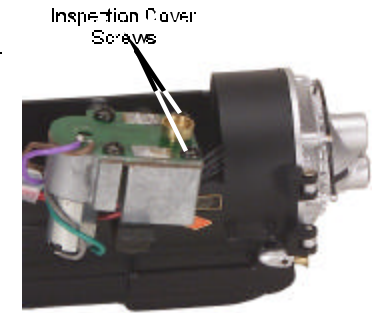
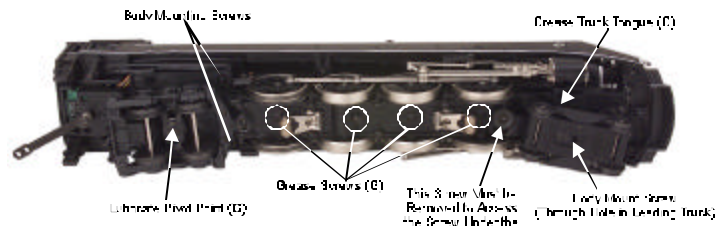
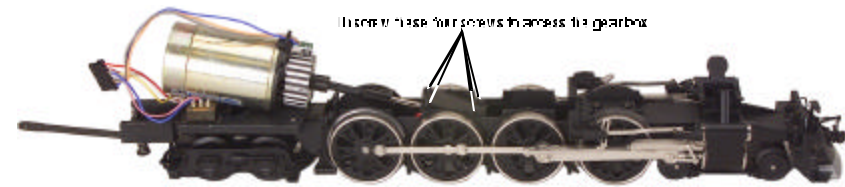

Figure 5. Inspecting the Smoke Unit
Figure 7a. Location of Body Mount Screws and Greasing Points on the Locomotive
Figure 7b. Screws to remove to access the gear box.
If you experience poor or no smoke output when the smoke unit is on and has fluid, check the wick to see if it has become hard, blackened, and unabsorbent around the heating element. Remove the boiler shell (by removing the body mounting screws shown in Fig. 7a on pg. 12), inspection cover screws, and inspection cover (Fig. 5). Inspect the wick; if it is darkly discolored and hard, it should be replaced.
2. Remove the boiler by removing the body mounting screws shown in Fig. 7a
3. Remove the Phillips screw (marked "GREASE") located at each set of wheels (Fig. 7a) and the gearbox cover screws (Fig. 7b).
You should also grease the leading and trailing locomotive truck tongues to enhance their ability to slide on the chassis. Follow the grease points shown on Fig. 7a.